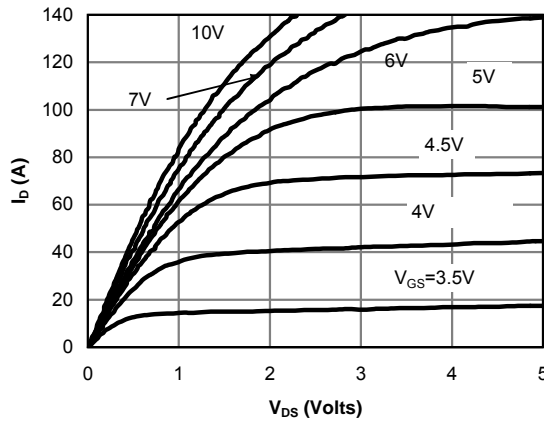

Figure 1: On-Region Characteristics (Note E)
E. The static characteristics in Figures 1 to 6 are obtained using <300 μs pulses, duty cycle 0.5% max.